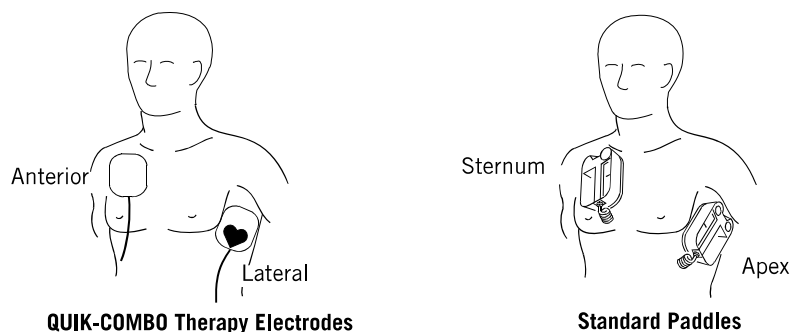

Figure 4-1 Anterior-Lateral Placement
1. Place either the ♥ therapy electrode or **APEX** paddle lateral to the patient's left nipple in the midaxillary line, with the center of the electrode in the midaxillary line, if possible (see Figure 4-1).
2. Place the other therapy electrode or **STERNUM** paddle on the patient's upper right torso, lateral to the sternum and below the clavicle as shown in Figure 4-1.